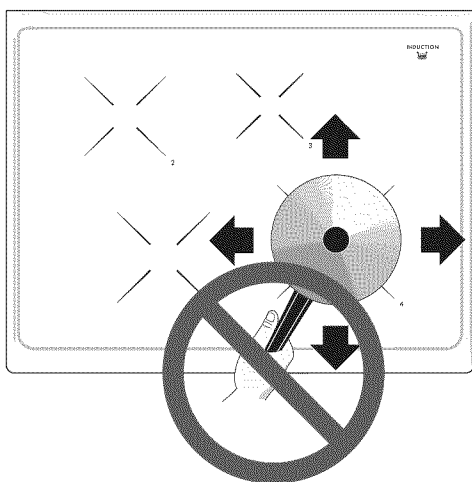

Figure 40: Do not slide cookware across cooktop
- Slide anything metal or glass across the cooktop (Figure 40).